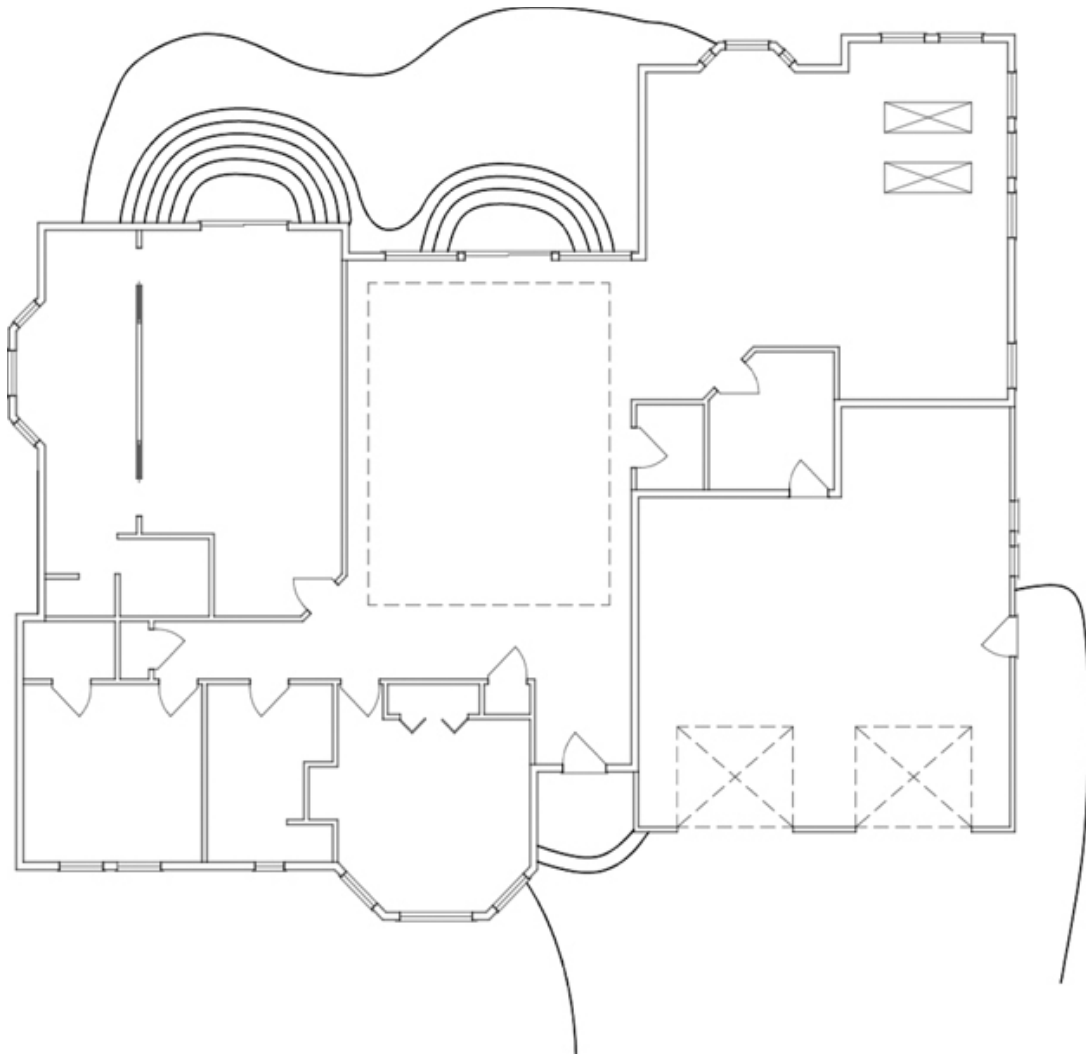

Figure 9-54
3. Draw the patio and driveway as shown in Figure 9-54 using spline fit polylines. Use appropriate layers for all objects.